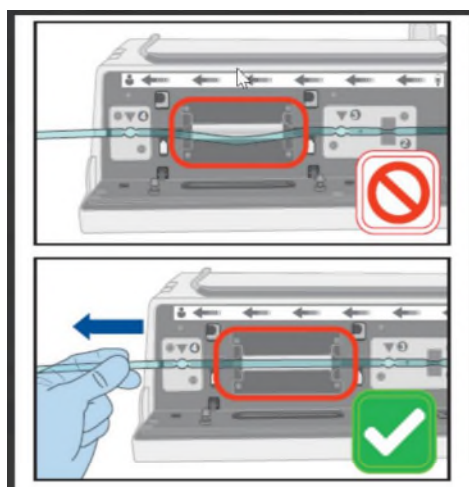

Figure 1
- b) The tubing is taut and loaded without slack in the pumping channel as pictured on page 8 of enclosed Attachment A, and in Figure 1 below.